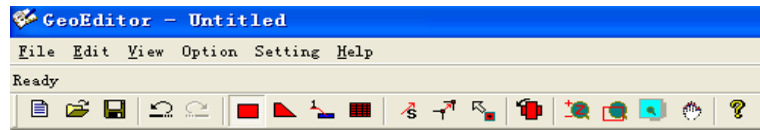
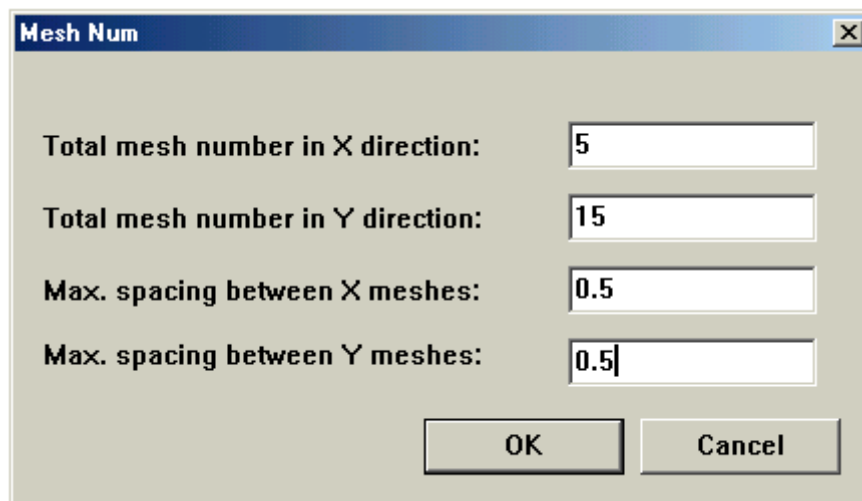

Figure 7.7: Toolbar and Menu
Figure 7.8: Set Mesh Information
8. Left-click on the [Auto Mesh(A)] button on the Toolbar (with titled Auto Mesh symbol, See Figure 7.7) The red button with titled Auto Mesh symbol at the mid part of the toolbar is the short-cut button for [Auto Mesh]. A dialogue box will appear prompting for the total number of mesh lines in the X and Y direction you wish to use. Select 5 and 15 for the X and Y directions, respectively. Click [OK] to confirm. At field "max. spacing between X meshes" and "max. spacing between Y meshes," let them be the default value: 0.5. (Refer to Figure 7.8)